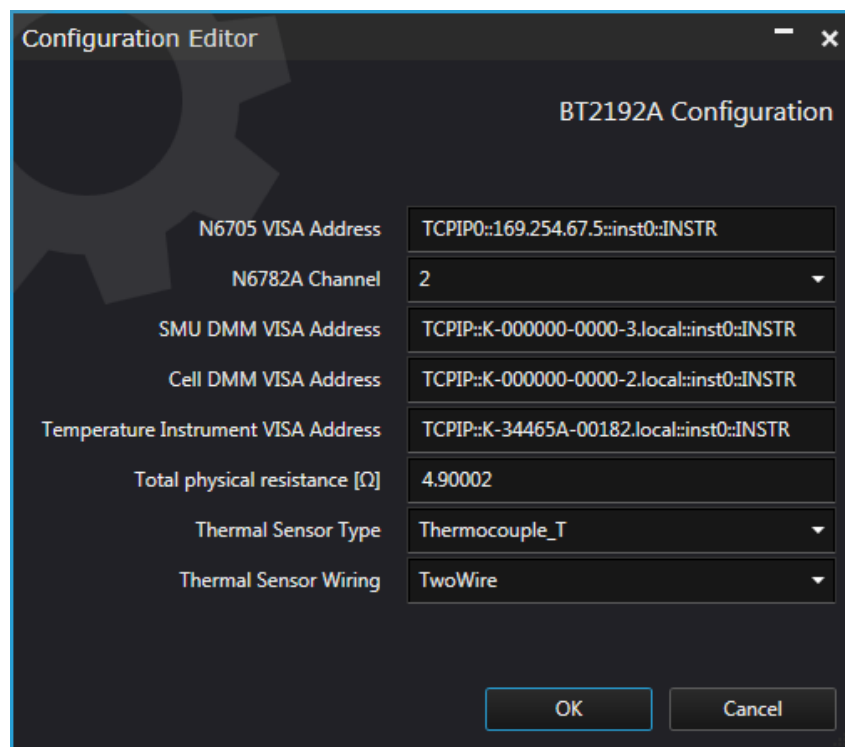

Figure 12 BT2192A Configuration Editor Screen
- 2 From the six menu selections, select, **Configure Hard ware....** This opens the hardware **Configuration Editor**. See Figure 12 below.